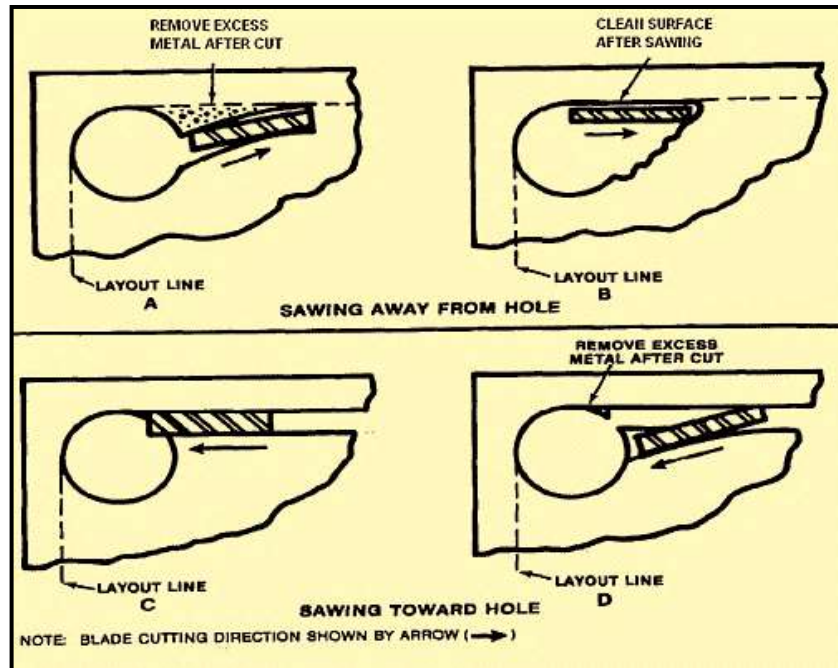

Figure 6-20. Methods of sawing toward and away from holes.
**Contour Sawing:** Is the process of cutting shapes in which the direction of the cut must be changed at intervals. Holes larger in diameter than the width of the saw blade must be drilled at each corner where a change of direction of the bandsaw blade will occur. Figure 6-20 illustrates the methods of changing direction of a cut at a hole.
**Sawing Away From the Hole:** To saw away from the hole on a line tangent to the hole, the saw blade must cut away from the center of the hole, or the blade will bow and cause a belly in the cut. The cut should be started as in A, Figure 6-20, in which a curve is cut outward from the hole to meet the layout line, leaving a piece of excess metal which
can be removed later by filing. An alternate method is shown at B, Figure 6-20, in which a section of metal is notched out with a saw blade by several short cuts to give the blade clearance for starting the cut along the layout line.
**Sawing Toward the Hole:** The diagrams at C and D, Figure 6-20, show the proper method of sawing up to a hole in two cuts. The excess metal can be removed later by filing. After the shape is cut and the slug or waste material is removed, the corners should be finished by filing or notching. The bandsaw blade should not be used for these operations because the blade will bow and cut unevenly.